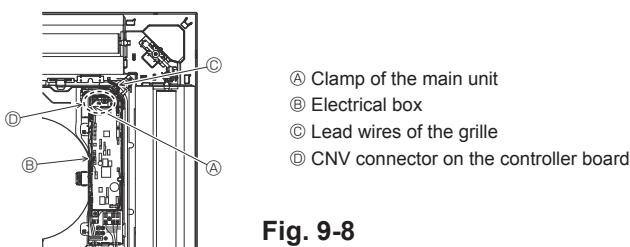

**Fig. 9-6**
### 9.4.2. Temporary installation of the grille (Fig. 9-6)
- By tightening the pre-installed screws, fix the grille onto the main unit. (Fig. 9-6)
Make sure there is no gap between the main unit and the grille or between the grille and the ceiling surface. (Fig. 9-6)